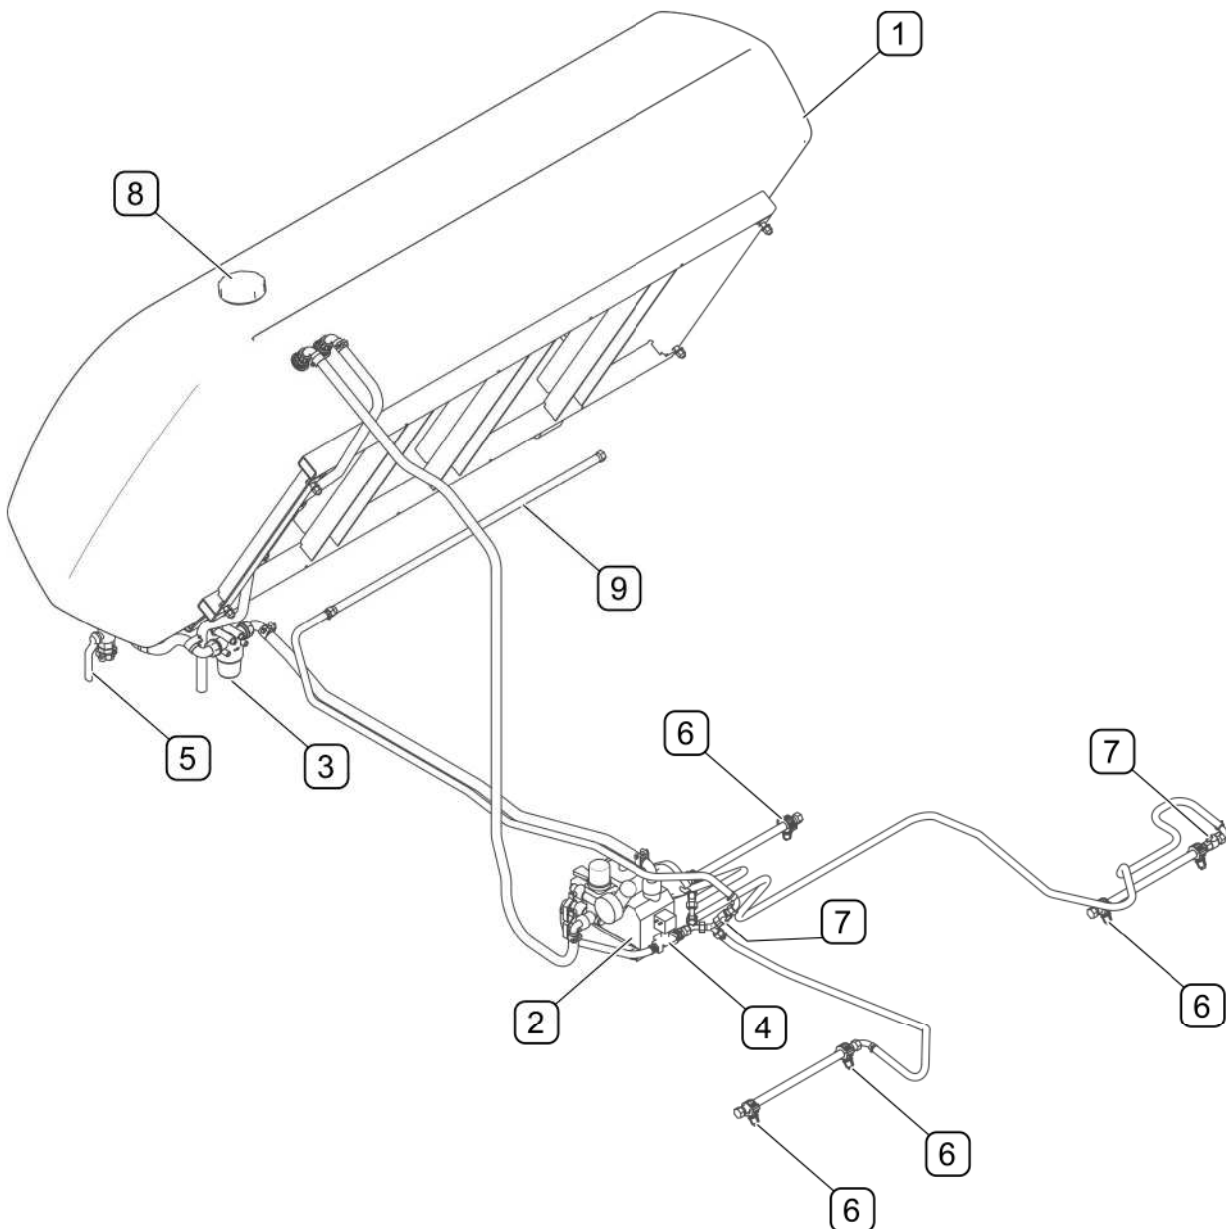

FIG. 3.7 Sprinkler system design
(1) - brake crank mechanism; (2) - cable; (3) - guide rollers
Sprinkler system (FIG. 3.7) prevents dusting during machine operation. Water tank (1) and pump (2) are the main elements of the system. Sprinkling nozzles (6) and sprinkling beam (9) are located in front of brushes and above the elevator. Some of the sprinklers can be switched off by means of valves (7). The sprinkler system is switched on and off from the control panel by activating solenoid valve (4).